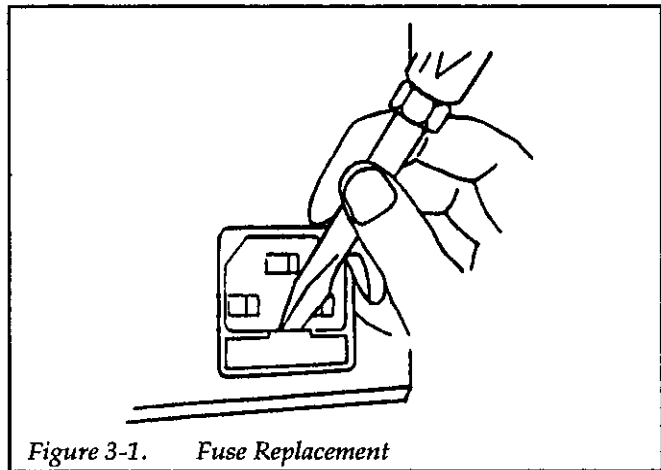

Figure 3-1. Fuse Replacement
1. Using a flat-blade screwdriver, pry open the fuse drawer, as shown in Figure 3-1.